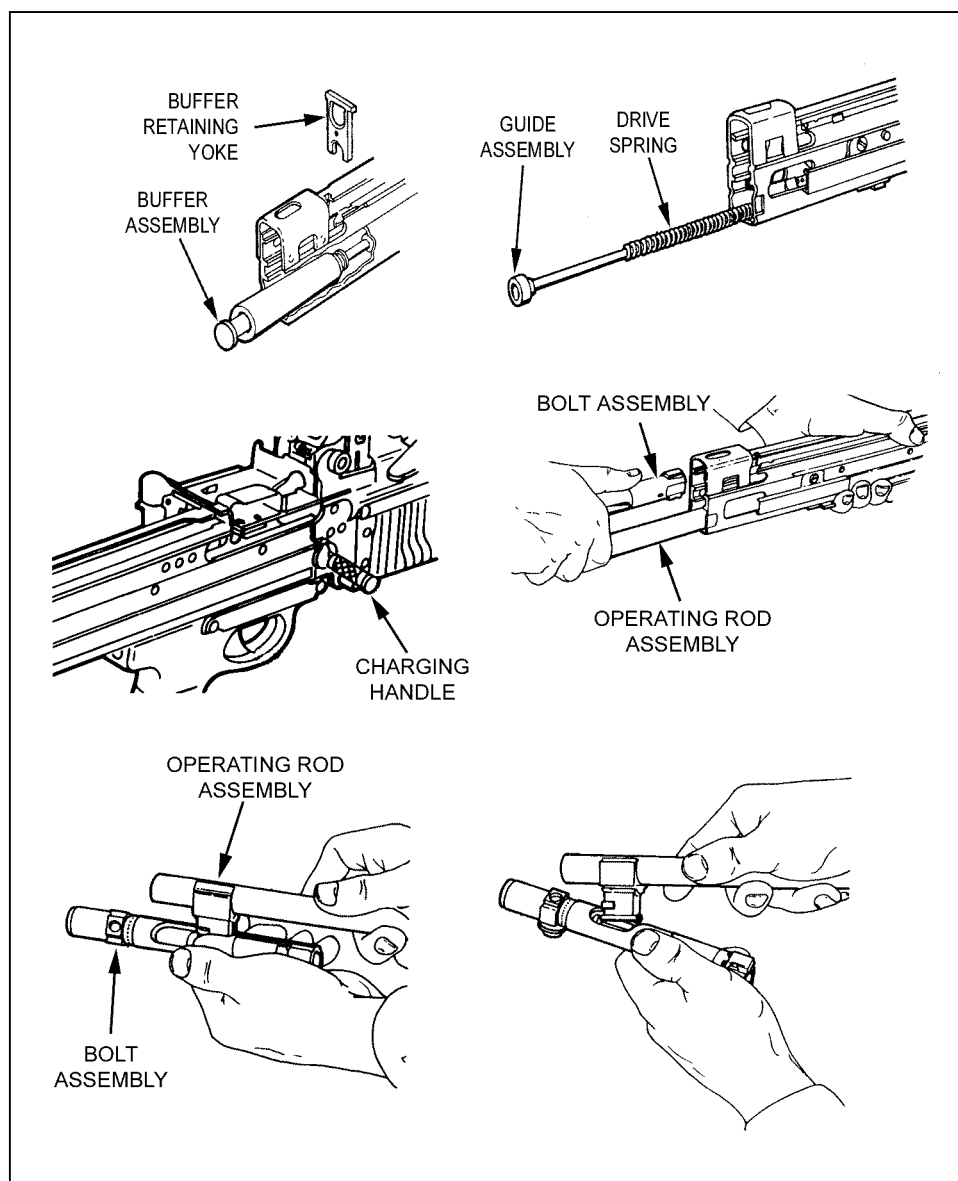

Figure 2-10. Removal of the buffer, operating rod, and bolt assemblies.
(1) To remove the buffer assembly, the gunner applies slight palm pressure to the rear of the hydraulic buffer assembly. He reaches inside the receiver and pulls up and out on the yoke to remove it from the receiver. He reaches in the back of the receiver and pulls the guide rod and drive spring out the rear of the receiver. (Figure 2-10).